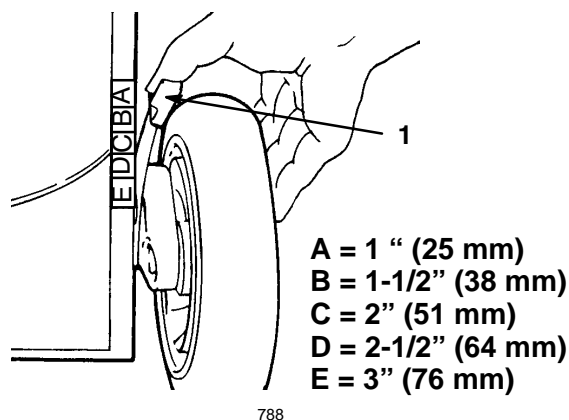

Figure 13
3. Squeeze the lawn mower's height-of-cut lever toward the wheel and move it to the corresponding letter on the lawn mower housing (Fig. 13).